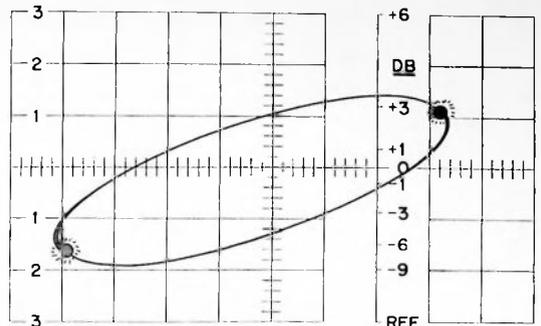
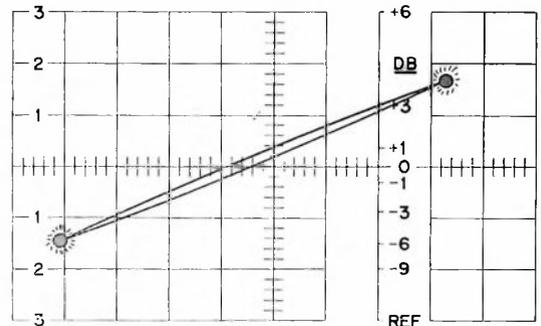

FIGURE 13. INCORRECT COMPENSATION
FIGURE 14. CORRECT COMPENSATION
- Adjust C-79 for correct compensation, as shown in Figure 14. Notice that the trace for correct compensation makes as small an angle as possible, entering both intense points of light, without actually crossing over. Figure 13 shows insufficient compensation, with the trace making a relatively broad arc at each intense point, rather than a narrow angle.